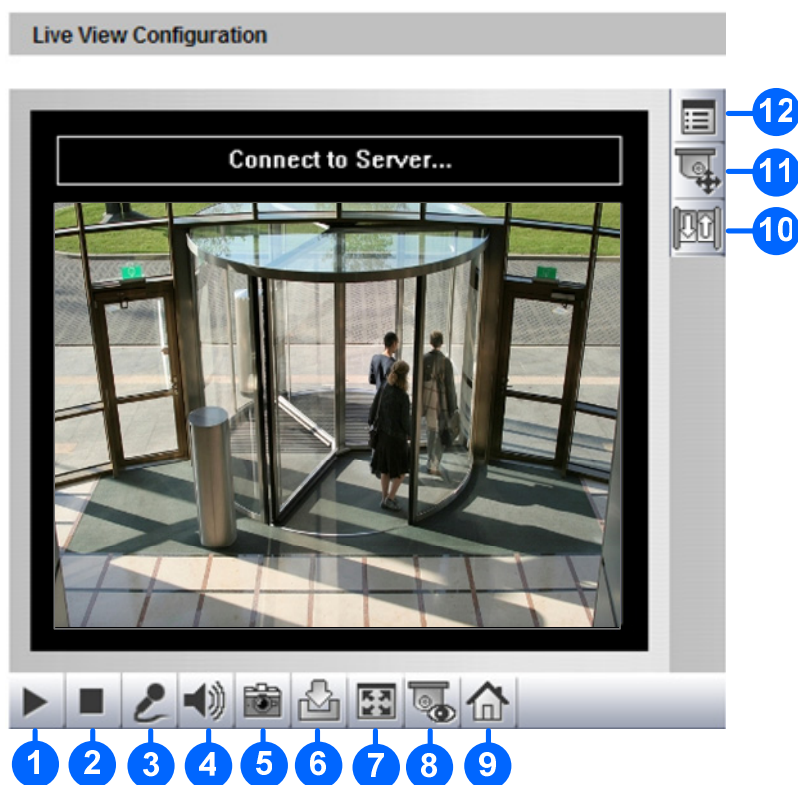

Figure 3-2
1. Click the **Snapshot** button (No. 5, Figure 3-2). The Save As dialog box appears.
1. Click the **File Save** button (No. 6, Figure 3-2). The Save As dialog box appears.
4. To stop recording, click the **Stop** button (No. 2, Figure 3-2).
To configure this function, click the **Show System Menu** button (No. 12, Figure 3-2), and select **Alarm Notify**. This dialog box appears.
Click the **Show System Menu** button (No. 12, Figure 3-2), and select **Video and Audio Configuration**.
You can upgrade the device firmware over the network. Click the **Show System Menu** button (No. 12, Figure 3-2), and select **Remote Config**. The Remote Config dialog box will appear.
To display the camera name on the image, click the **Show System Menu** button (No. 12, Figure 3-2), and select **Show Camera Name**.
To enhance the image quality of live video, click the **Show System Menu** button (No. 12, Figure 3-2), and select **Image Enhance**. This dialog box appears.